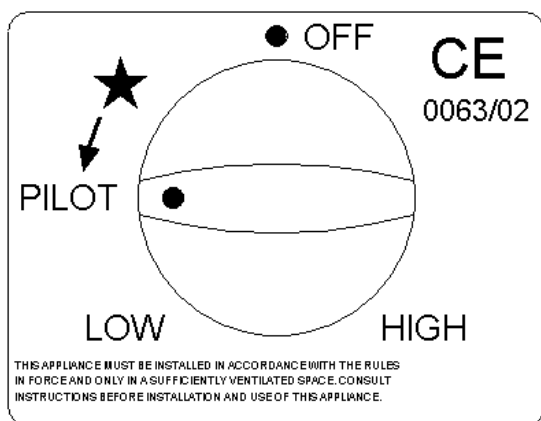

Fig 4b
Step 1b. Keep the control knob pressed in and turn anti-clockwise to the pilot position. (Fig 4b)